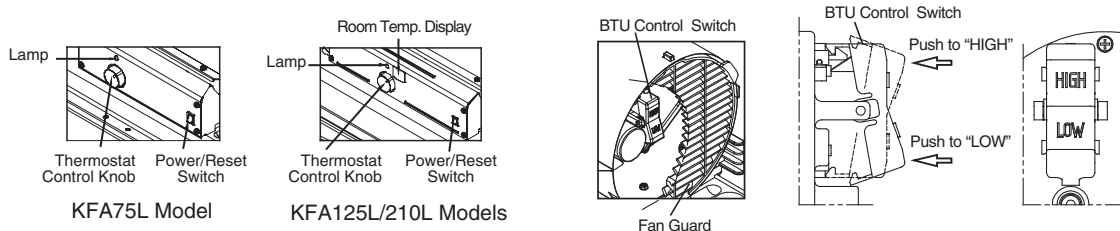

Figure 8. Controls for All Models
Insert screws through handles, fuel tank flange and wheel support frames as shown in Figure 8 and attach nut finger tight after each screw is inserted.
4. Turn “THERMOSTAT CONTROL Knob” to desired setting (setting range : 40°F ~ 110°F) and push “BTU control Switch” to desired level “High or LOW” (See Figure 8.)